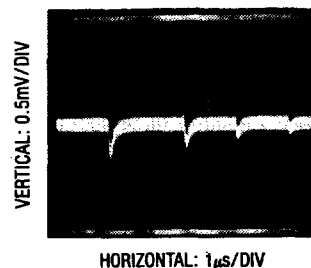

Figure 13. Adequate Reference Settling
2. Transients on the reference input caused by the capacitive switching currents must settle completely during each bit test (each CLK cycle). Figures 13 and 14 show examples of both adequate and poor settling. Using a slower CLK will allow more time for the reference to settle. However, even at the maximum CLK rate of 500kHz most references and op amps can be made to settle within the $2\mu s$ bit time.